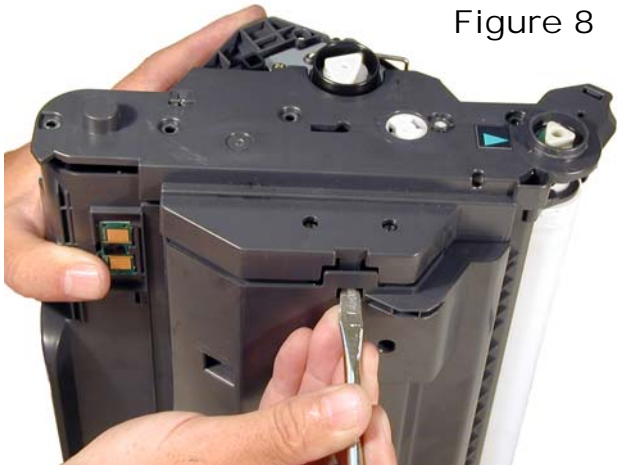

Figure 8
6) Press in on the bottom and top tabs to release. See **Figures 8 & 9**